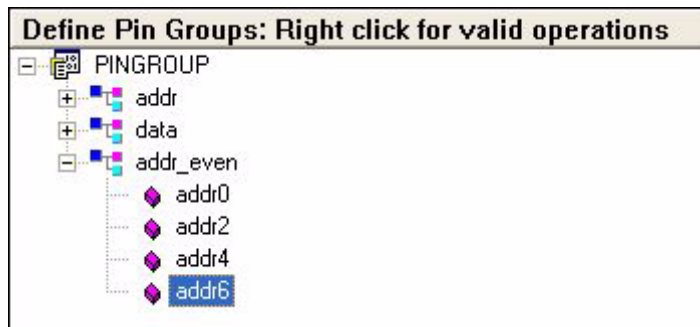

Figure 3-46. Modified `addr_even` Pin Group
- 11 Selecting the `Delete` command in the pop-up menu deletes the selected pins (Figure 3-46).